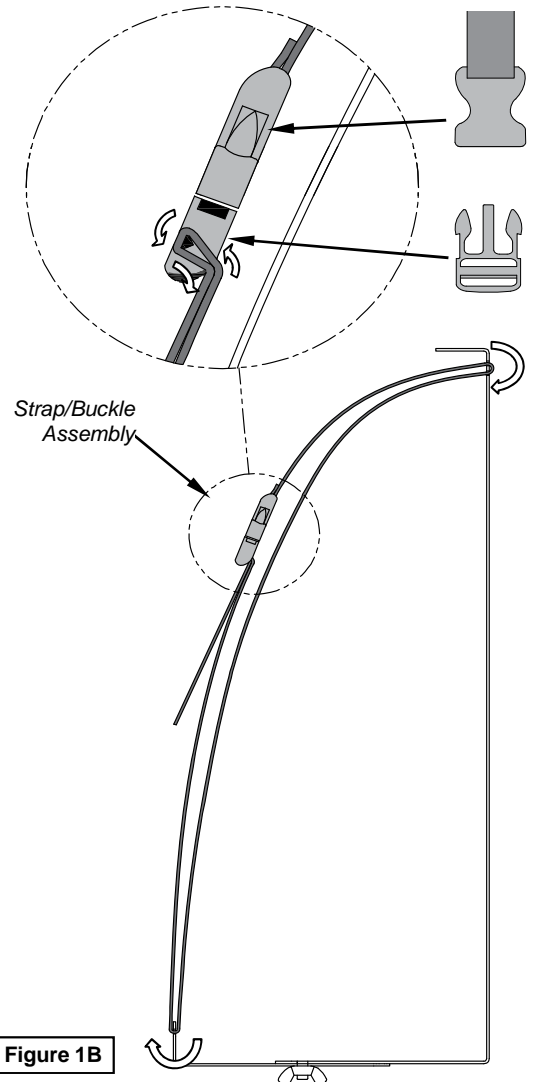

Figure 1B
- Thread the straps through the slots in sling side and base as shown in **Figure 1B** with the tails hanging down. (The center slot can be used for smaller CPU's.)